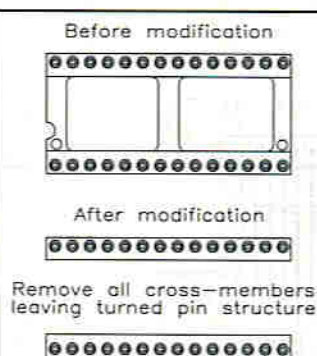

Figure 7. Modifying the DIL socket for the Sony CXA1645P chip.
- The socket for IC2 will require cutting down to size, see Figure 7,